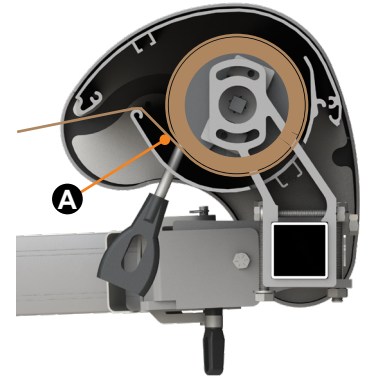
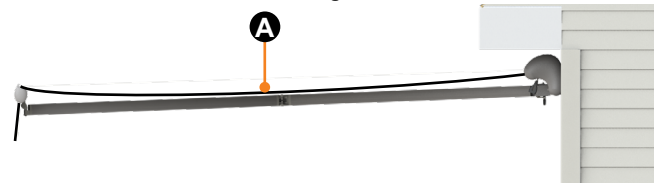

Fig.103
Fig.104
**NOTE:** When extending the awning, do not overextend it to the point where the fabric rolls under the roll tube (Fig. 103) and/or becomes saggy (Fig. 104).
**NOTE:** Do not position this stop so that it is past the overextension point of the awning. When the awning is overextended, the fabric will sag (Fig. 104) and potentially begin to roll up under the roll tube instead of above it (Fig. 103).